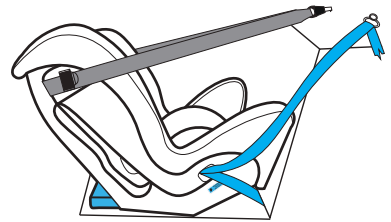

Figure 9
**Step 8:** Locate the adjuster at the side of the restraint. It is acceptable to have a twist behind the adjuster (refer Figure 9).
- Step 7:** Pull to tighten to remove all the slack from the upper tether strap. Do not overtighten as this could cause the restraint to lift off the vehicle seat (refer to Figure 9).